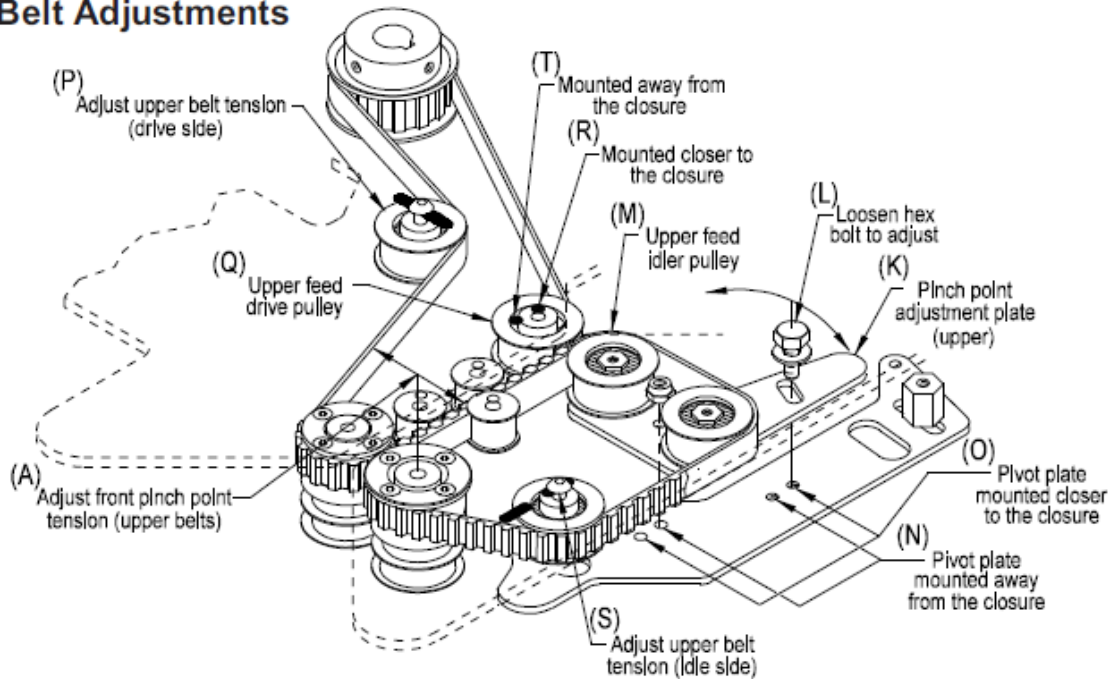

Figure 5.6
3. Position the bag film guide as shown in Figure 5.6.
*Reference Figure 5.6*